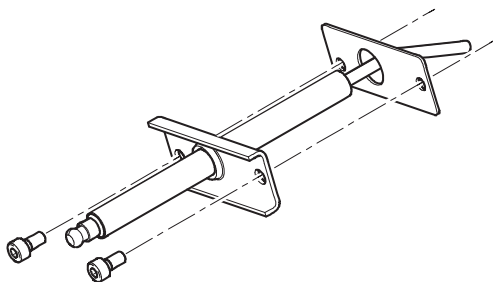

Figure 35: Flame Rod Assembly
- Install flame rod as shown in Figure 35.